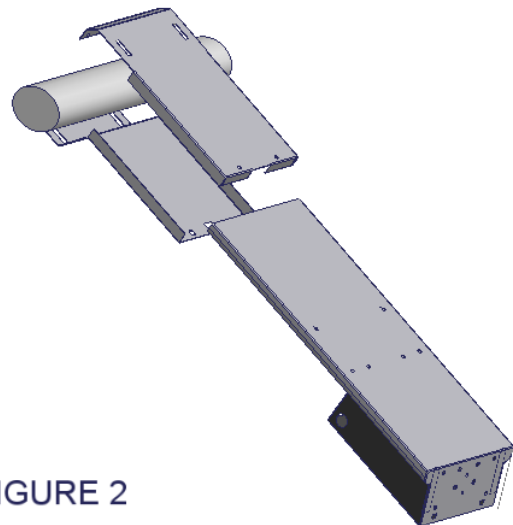

FIGURE 2
7. Refer to Figure 2 and place the Upper and Lower Adjustment pieces around the rear rollbar. Notice that the upper piece wraps outside of the lower piece on the top and sides. Also notice that that upper piece has nuts inserted, make sure that at the back of the two pieces that the upper piece is inside the lower piece, See Figure 3.